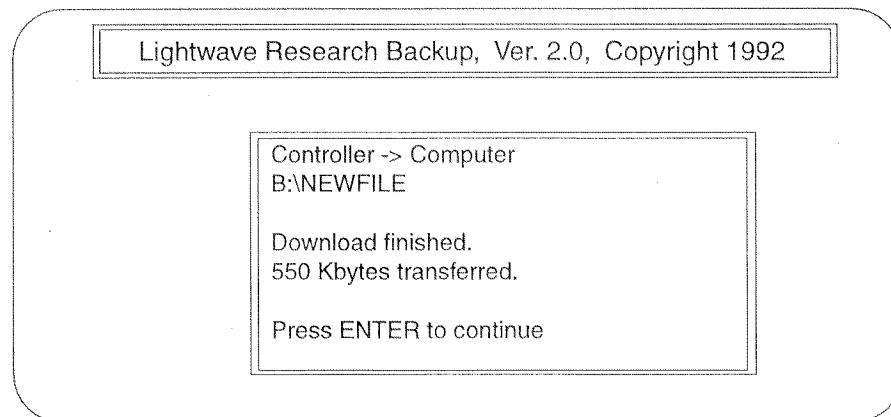

Figure 7.6. Complete Download to Computer Operation
7. After saving all 9 Memories (891 pages), the program then prompts you to terminate the transfer at the computer keyboard by pressing the ENTER key. Refer to Figure 7.6.